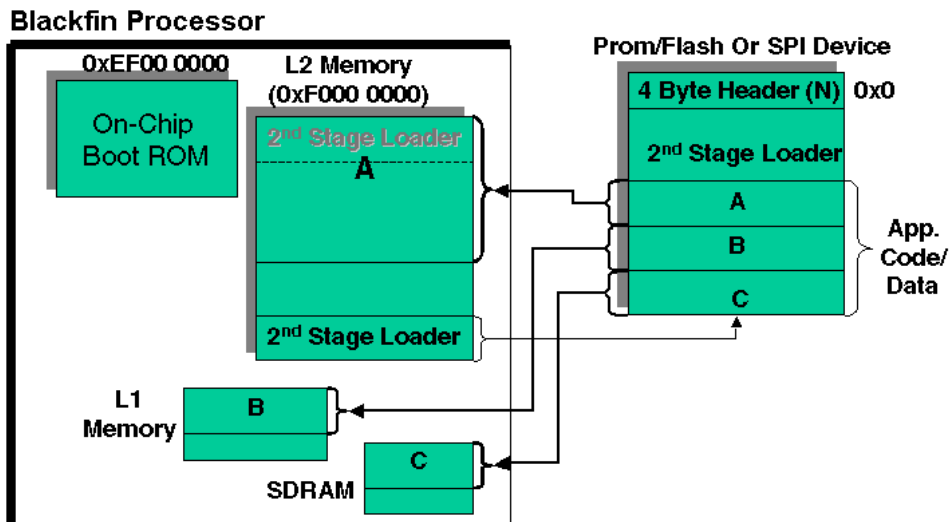

Figure 5-6. Booting Application Code into Blackfin Processor Memories
3. The second-stage loader boots in the application code/data into the various memories of the Blackfin processor (Figure 5-6).